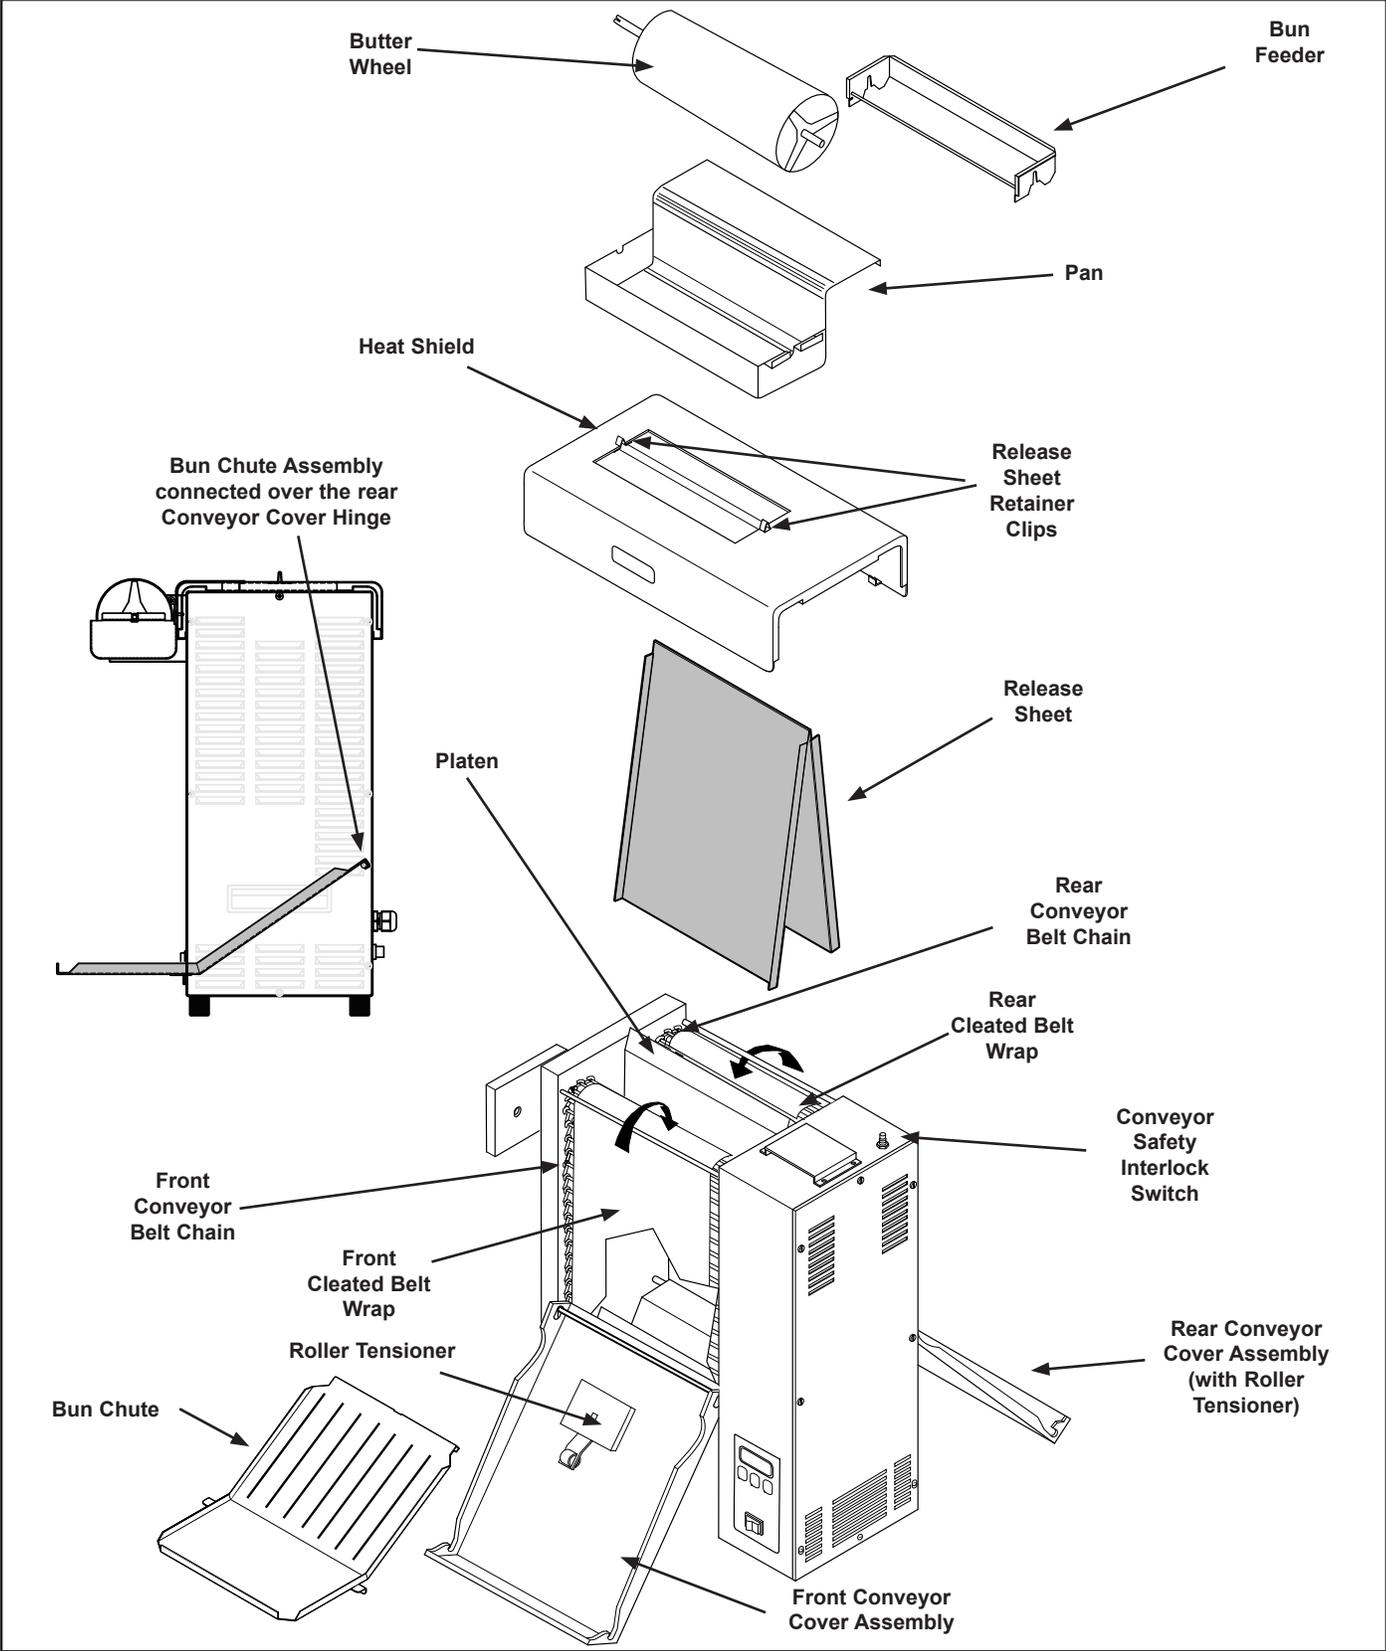

Figure 2. VCT-2000 Components
- Bun Chute (Figure 2)
- Butter Wheel and Pan (Figure 2)
- Two Release Sheets (Figure 2)
NOTE: The factory has pre-installed a Release Sheet over the Platen (Figure 2). Verify that it is properly in place before proceeding.
2. Install the Pan over the front edge of the Heat Shield and place the Butter Roller in Pan and engage into gear case (Figure 2).
IMPORTANT: Make sure Heat Shield assembly is activating the Conveyor Interlock Switch (Figure 2). The conveyors will not rotate unless the Heat Shield is in place and Conveyor Interlock Switch is activated.
NOTE: The display (Figure 2) flashes “LO” during warm-up. “USE” appears when the toaster is ready for use.
2. Remove the Butter Wheel, Pan, and Heat Shield (Figure 2). Set the Bun Thickness Compression Knobs to 6 & 6.
2. Remove the Bun Feeder, Butter Wheel, Pan, and Heat Shield (Figure 2). Set the Bun Thickness Compression Knobs to 6 & 6.